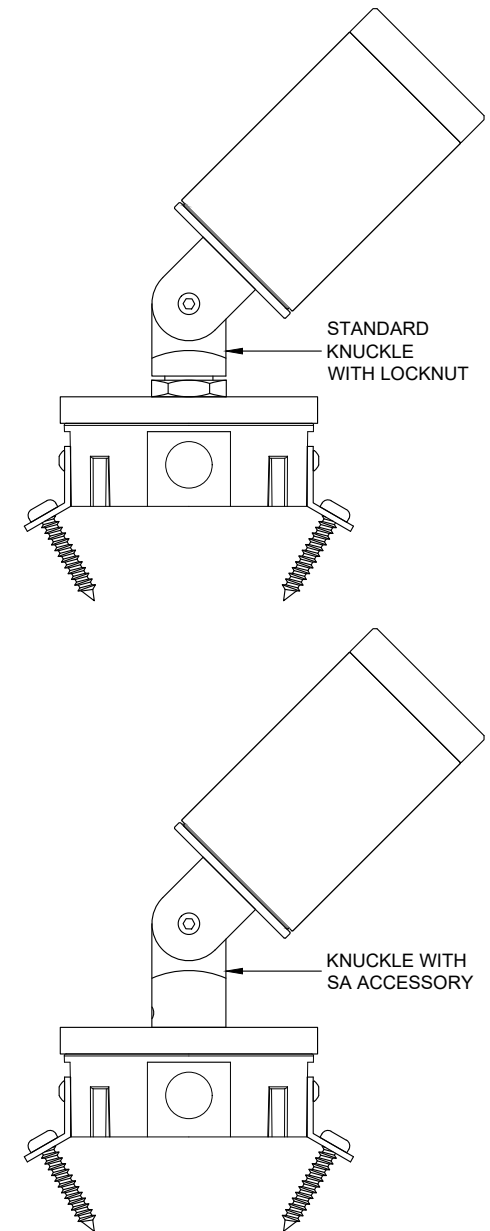

Figure 4
assembly into the Cover until contact with the locknut is made. Make sure 1/16" gap is maintained. (Figure 4)
10. If the SA accessory is used, where rotation position is fixed by an allen wrench instead of locknut (Figure 4), use high strength threadlocker on the male threads of the SA accessory. Thread the knuckle / fixture assembly fully into the Cover until it bottoms out.